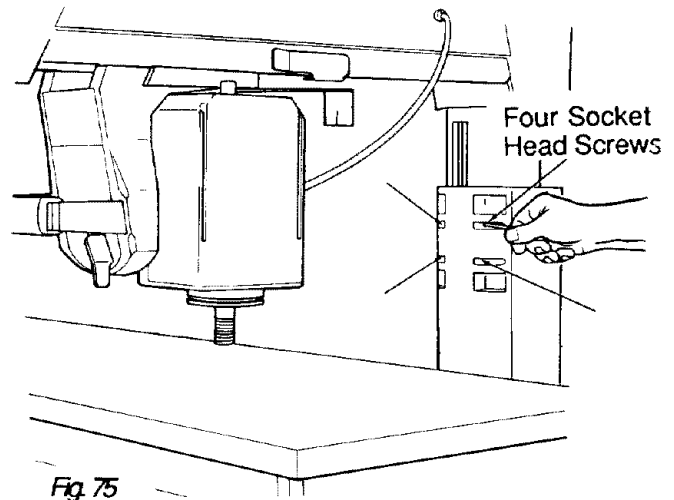

Fig. 75
11. Use 3/16 hex “L” wrench to loosen the four screws in the front of the *column support* slightly, if you have not already done so in the Adjusting Elevation section. (Figure 75)